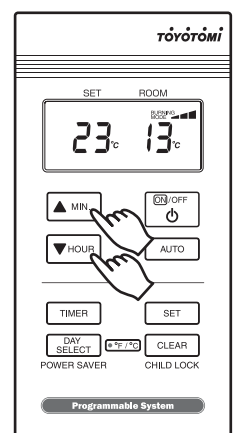

Fig. 2
2. Setting Room Temperature (Fig. 2)